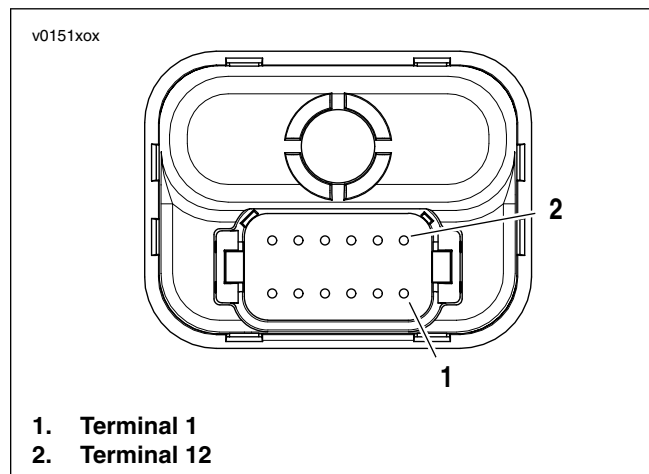

Figure 8-50. TSSM Connector Pins
2. See Figure 8-50. Depress latches on connector [30B].
1. See Figure 8-50. Depress latches on connector [30B].